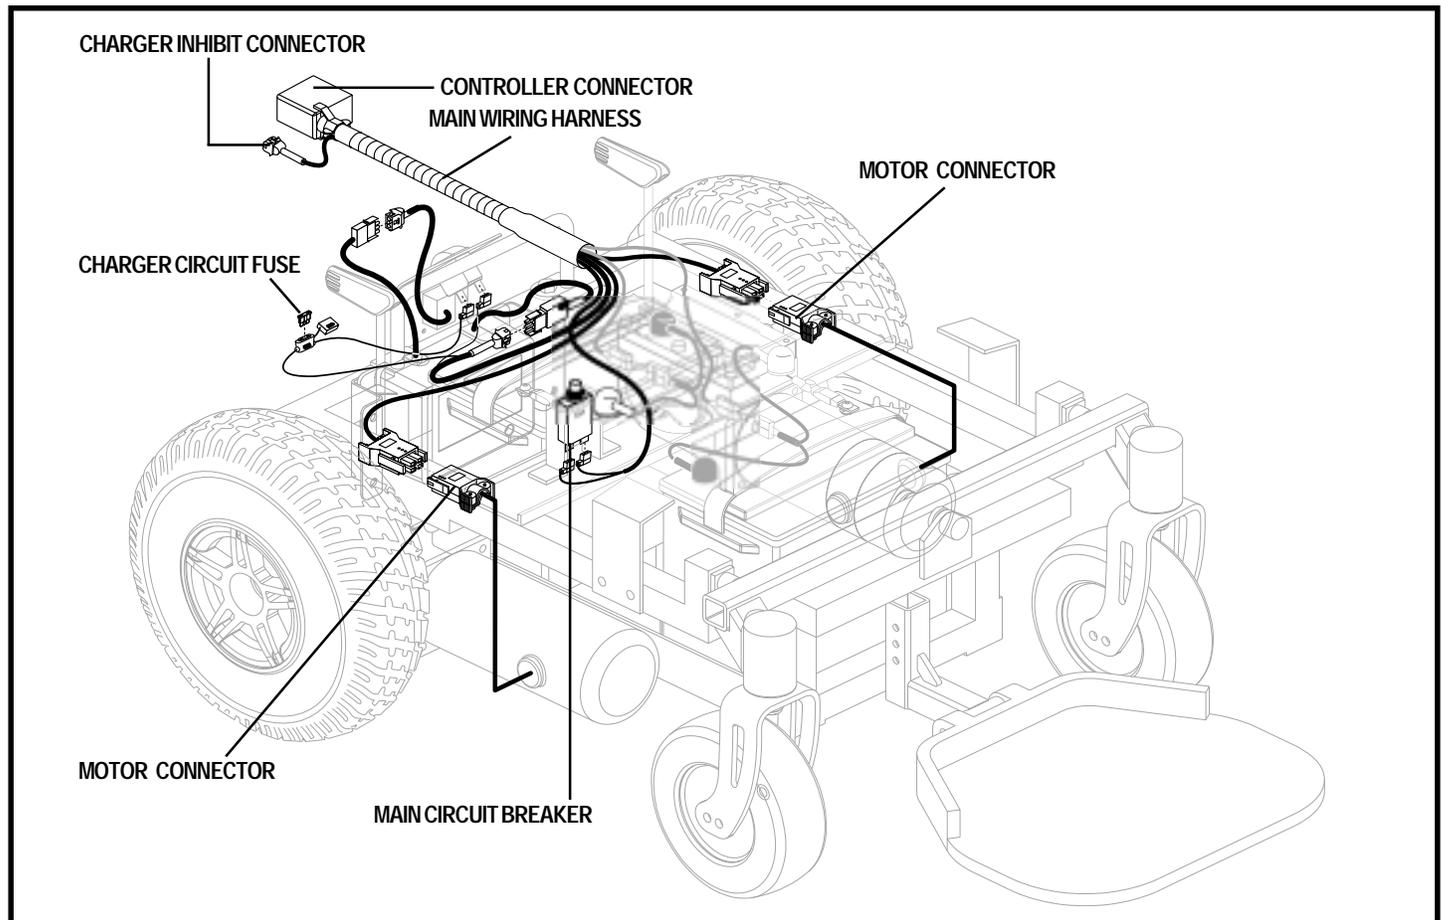

Figure 7. Flash Electrical Components
The main electrical components are located on the power base. The ammeter and the charger cord receptacle are located on the back of the power base. The main circuit breaker is located on the top of the power base. The controller connector and the charger inhibit connector are located on the main wiring harness. See figure 7.
5. Plug the controller connector and the charger inhibit connector into the main wiring harness. See figure 7.
1. Unplug the controller connector and the charger inhibit connector from the main wiring harness. See figure 7.